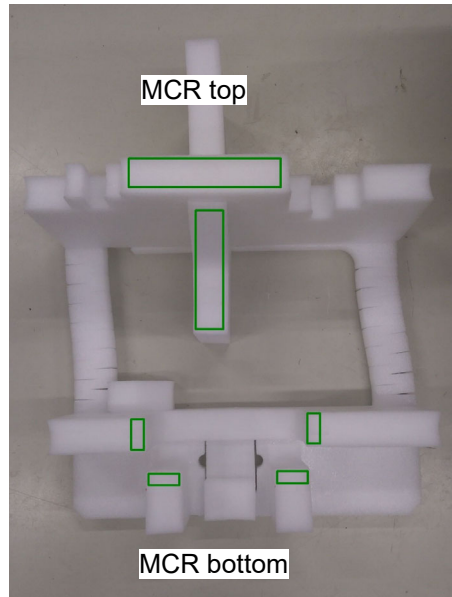

Fig. 16: Upper packing foam break outs
11. Remove the parts of the upper packing foam indicated in green in Fig. 16.